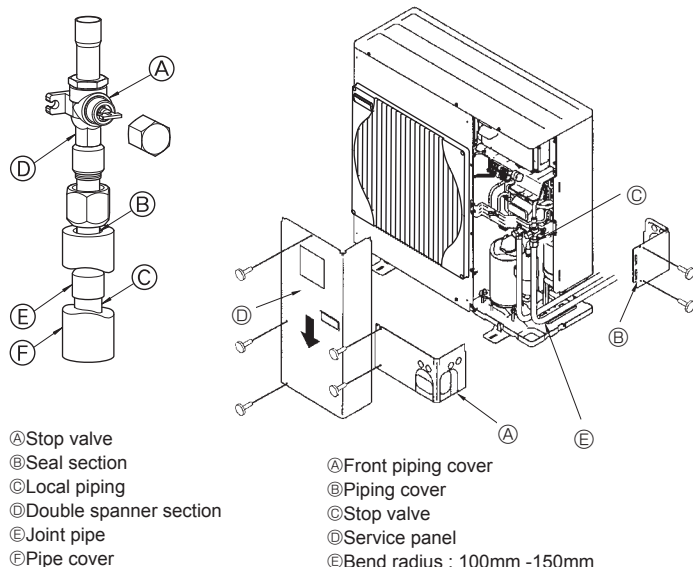

Fig. 4-3
- Use the following procedure for connecting the gas-side piping. (Fig.4-3)